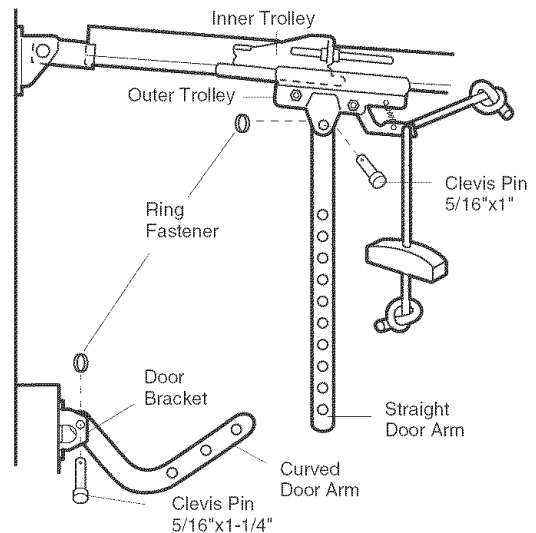

Figure 1
- Make sure garage door is fully closed. Pull the emergency release handle to disconnect the outer trolley from the inner trolley. Slide the outer trolley back (away from the door) about 2" (5 cm) as shown in Figures 1, 2 and 3.
- **Figure 1:**